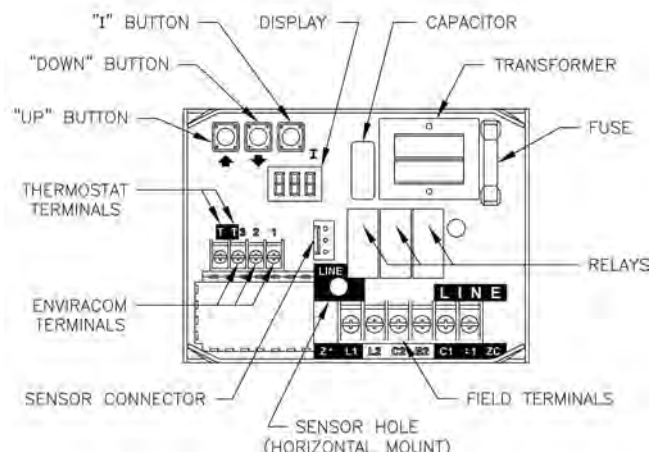

Figure 22: L7248/L7224 Circuit Board Layout - Horizontal Mount
4. **ADJUSTING AQUASTAT CONTROLLER SETTINGS.** To discourage unauthorized changing of Aquastat settings, a procedure to enter the **ADJUSTMENT** mode is required. To enter the **ADJUSTMENT** mode, press the **UP**, **DOWN**, and **I** buttons (refer to Figure 22) simultaneously for three seconds. Press the **I** button until the feature requiring adjustment is displayed: